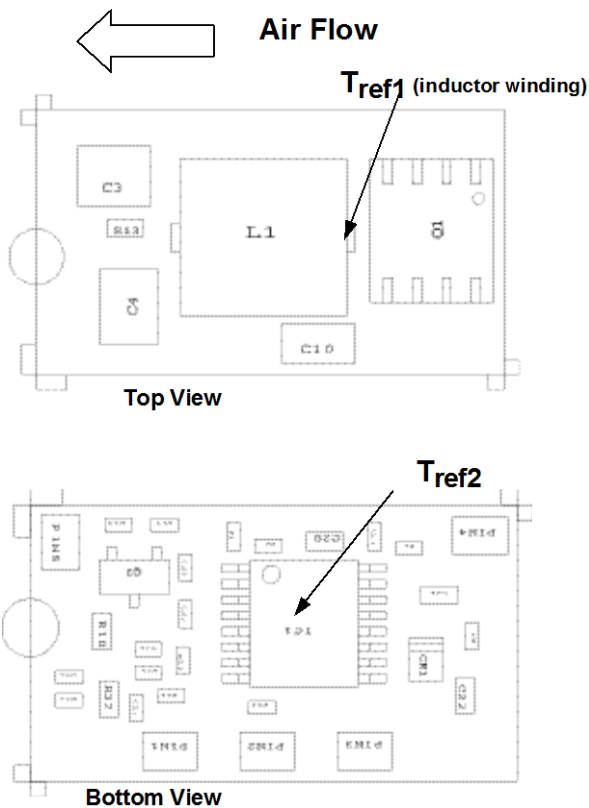
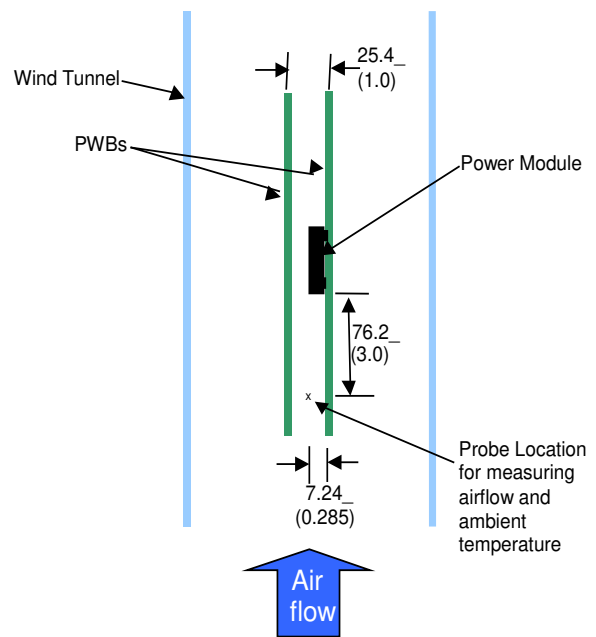

Figure 32. T_{ref} Temperature measurement location.
Figure 33. Thermal Test Set-up.
To provide over temperature protection in a fault condition, the unit relies upon the thermal protection feature of the controller IC. The unit will shutdown if the thermal reference point T_{ref2} , (see Figure 33) exceeds $140^{\circ}C$ (typical), but the thermal shutdown is not intended as a guarantee that the unit will survive temperatures beyond its rating. The module will automatically restarts after it cools down.
Considerations include ambient temperature, airflow, module power dissipation, and the need for increased reliability. A reduction in the operating temperature of the module will result in an increase in reliability. The thermal data presented here is based on physical measurements taken in a wind tunnel. The test set-up is shown in Figure 33. Note that the airflow is parallel to the long axis of the module as shown in figure 32. The derating data applies to airflow in either direction of the module's long axis.
The thermal reference point, T_{ref1} used in the specifications of thermal derating curves is shown in Figure 32. For reliable operation this temperature should not exceed 125°C.